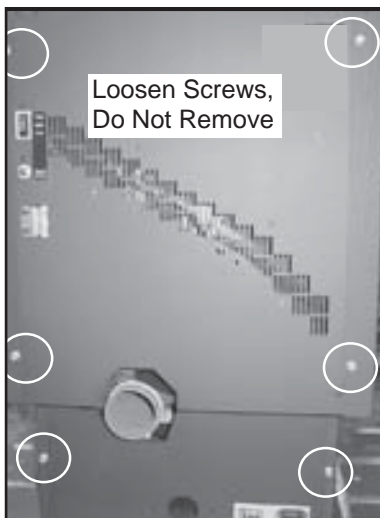

Figure 21.1
4. Loosen the 4 screws on the upper back panel and the 2 screws on the lower back panel, using a #2 Phillip Head screwdriver, a 3/8 inch wrench or a 3/8 Inch socket. You do not need to remove them. **Figure 21.1.**